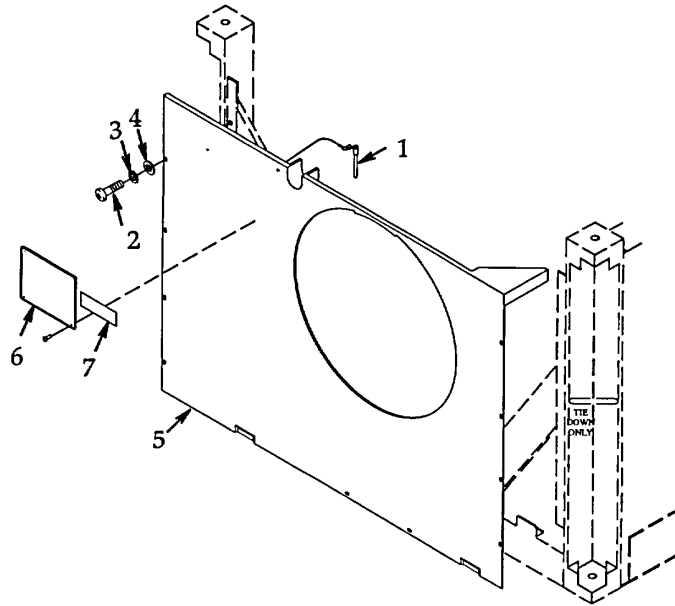

Figure 4-19. End Panel.
a. **Removal.** See figure 4-19.
- (1) Shutdown the FDECU per paragraph 2.4.
b. Installation. See figure 4-19.
- (1) Be sure I.D. plate (6) and label (7) were installed onto new end panel (5). Install end panel and align mounting holes. Secure with 10 flat washers (4), new lock washers (3), and screws (2).
- (2) Install duct if necessary per paragraph 4.4.6.
- (3) Insert quick release pin (1) if necessary.
- (4) Lower and secure cover per paragraph 4.2.
- (5) Connect FDECU to power source and operate per paragraph 2.4.